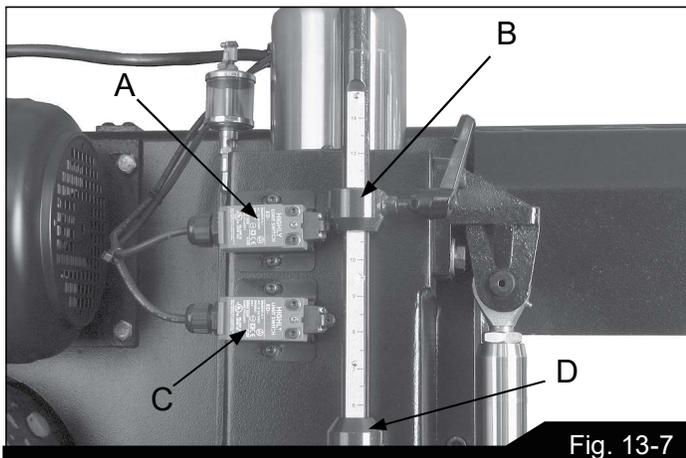

Fig. 13-7
The upper limit switch (A, Fig. 13-7) stops the saw head at the height set by the upper stop (B). This should be set to stop the head just above the workpiece, to optimize cycle time.